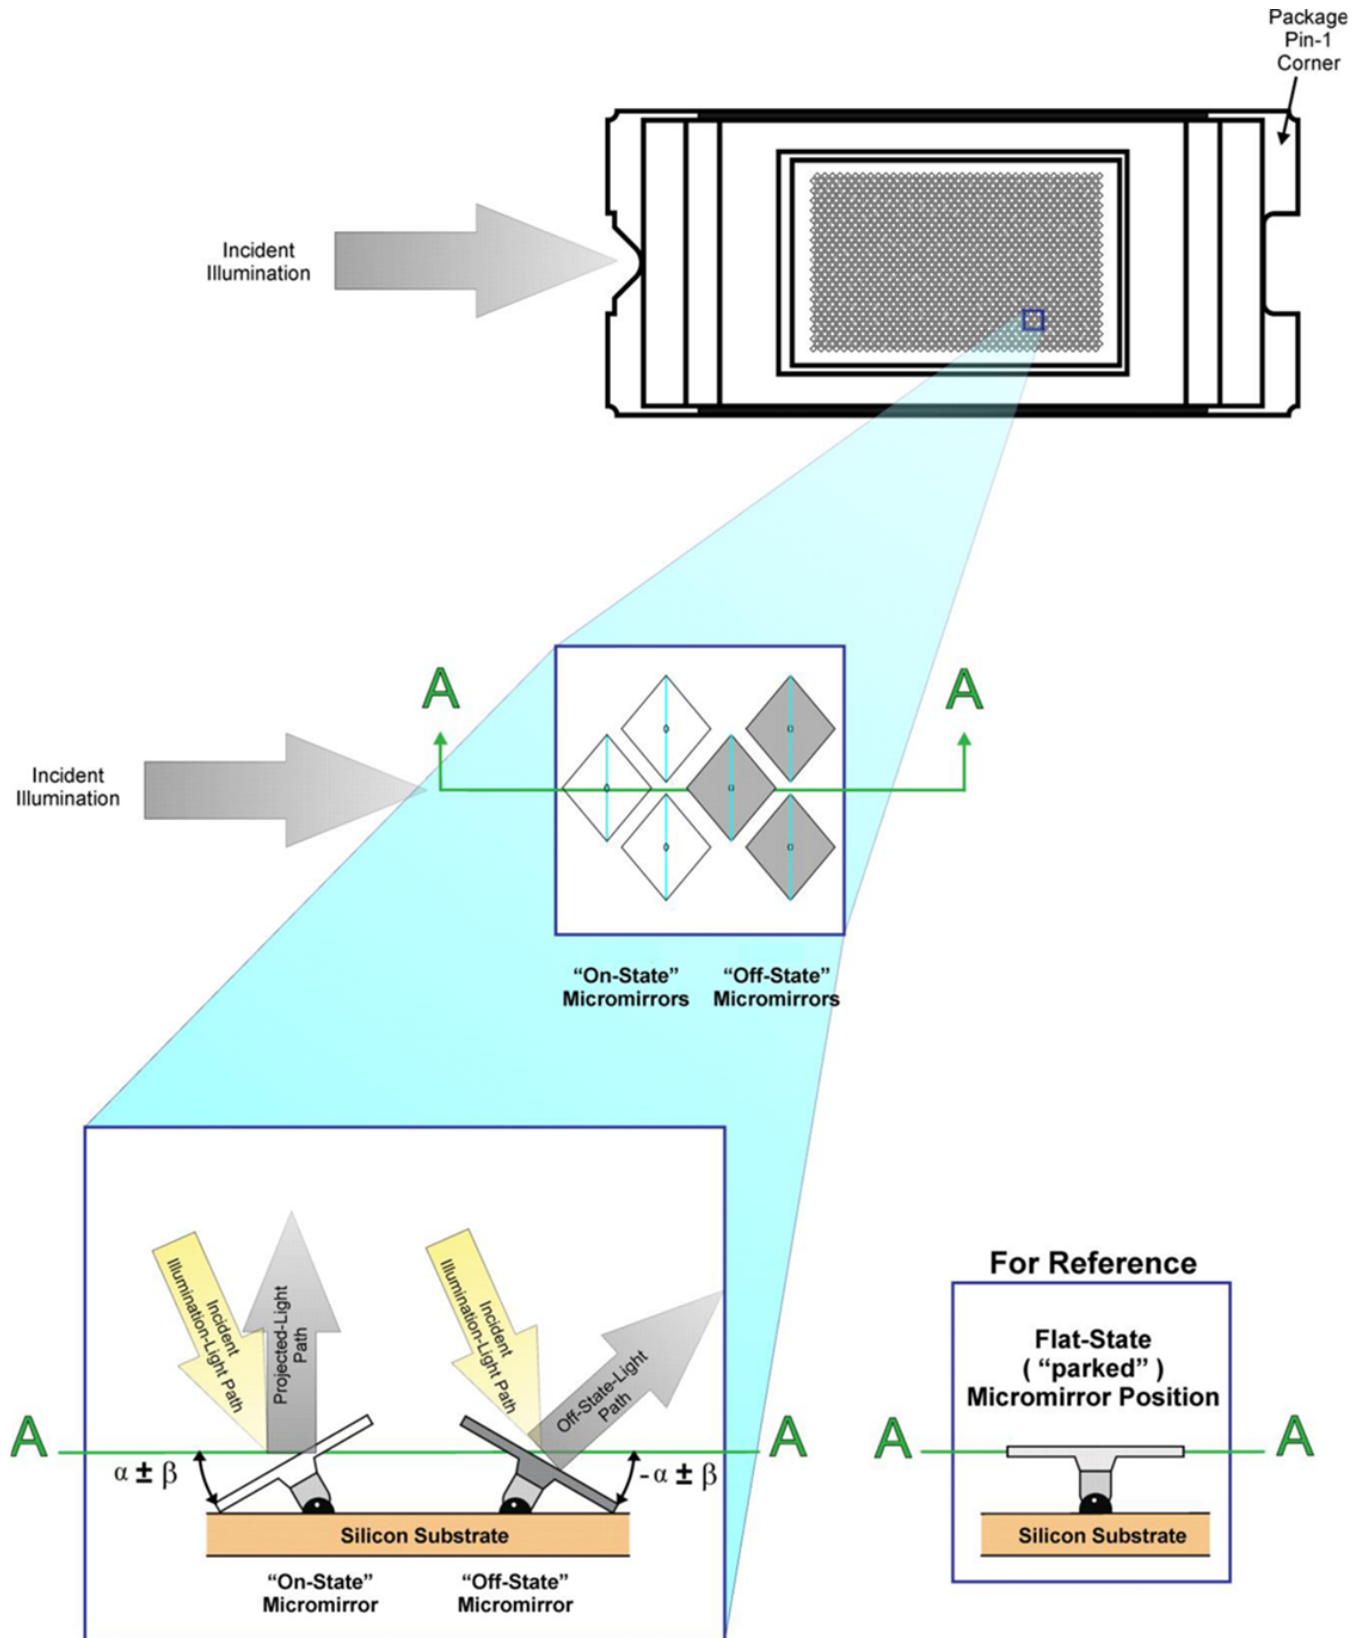

Figure 8. Micromirror Landed Positions and Light Paths
- (1) Measured relative to the plane formed by the overall micromirror array.
- (2) *Parking* the micromirror array returns all of the micromirrors to a relatively flat (0°) state (as measured relative to the plane formed by the overall micromirror array).
- (3) When the micromirror array is *parked*, the tilt angle of each individual micromirror is uncontrolled.
- (4) See Figure 8.
- (5) Additional variation exists between the micromirror array and the package datums.
- (6) When the micromirror array is *landed*, the tilt angle of each individual micromirror is dictated by the binary contents of the CMOS memory cell associated with each individual micromirror. A binary value of 1 results in a micromirror *landing* in an nominal angular position of +12°. A binary value of 0 results in a micromirror *landing* in an nominal angular position of -12°.
- (7) Represents the *landed* tilt angle variation relative to the nominal *landed* tilt angle
- (8) Represents the variation that can occur between any two individual micromirrors, located on the same device or located on different devices.
- (9) For some applications, it is critical to account for the micromirror tilt angle variation in the overall system optical design. With some system optical designs, the micromirror tilt angle variation within a device may result in perceivable non-uniformities in the light field reflected from the micromirror array. With some system optical designs, the micromirror tilt angle variation between devices may result in colorimetry variations or system contrast variations.
- (10) Micromirror crossover time is primarily a function of the natural response time of the micromirrors.
- (11) Performance as measured at the start of life.
- (12) Non-operating micromirror is defined as a micromirror that is unable to transition nominally from the -12° position to +12° or vice versa.
- (13) Measured relative to the package datums B and C, shown in the Package Mechanical Data section in Mechanical, Packaging, and Orderable Information.
- (14) The nominal DMD total optical efficiency results from the following four components:
Each micromirror is switchable between two discrete angular positions: -12° and 12° . The angular positions α and β are measured relative to a 0° flat reference when the mirrors are parked in their inactive state, parallel to the array plane (see Figure 8). The parked position is not a latched position. Individual micromirror angular positions are relatively flat, but do vary. The tilt direction is perpendicular to the hinge-axis. The on-state landed position is directed toward the left side of the package (see Figure 8).